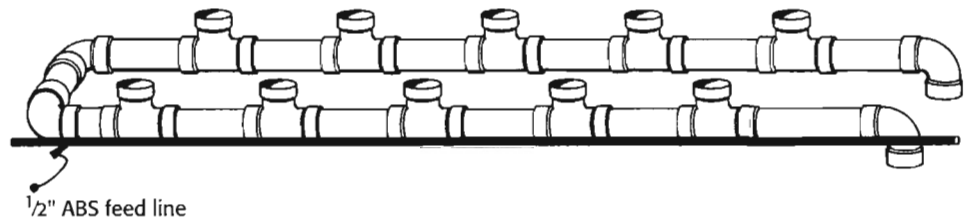

Figure 3. U-shaped unit with feed line
1. Place the U-shaped unit on a flat surface in its proper horizontal position. Place the 1/2-inch ABS feed line parallel to one side of the hydroponic unit (fig. 3) so that one end of the feed line is even with the base of the U and the other extends beyond the two open ends of the unit.